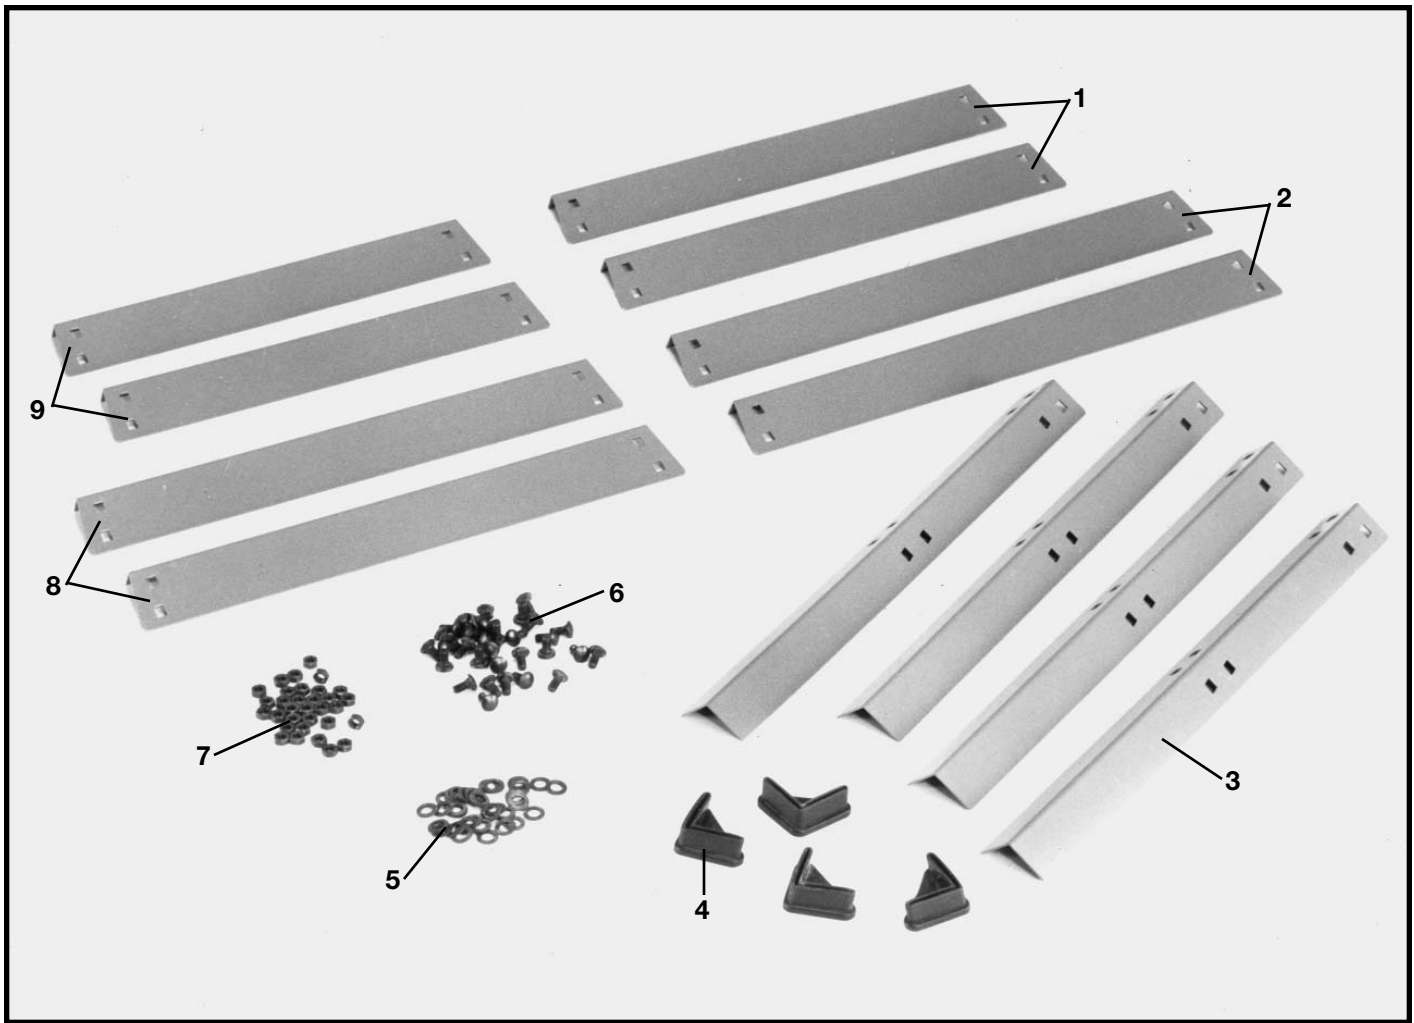
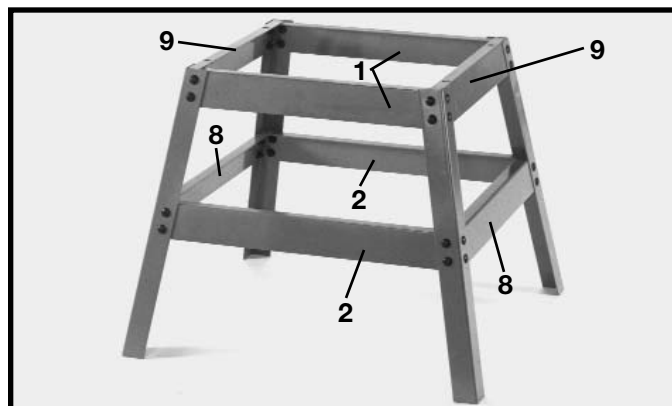

Fig. 3
Fig. 4
Assemble stand as shown in Figs. 4 and 5 using parts shown in Fig. 3. The braces, legs and feet are labeled the same in all three illustrations. Insert the M8x1.25x16mm carriage head screws through legs and braces then place the 3/8" flat washers on the screws and secure with the M8x1.25 hex nuts. Only tighten nuts finger-tight at this time. **NOTE:** The top lips of the two top side braces (9) Fig. 4, must fit on top of the top lips of the front and rear braces (1). The side braces (9) have holes on top for mounting the saw to the stand.